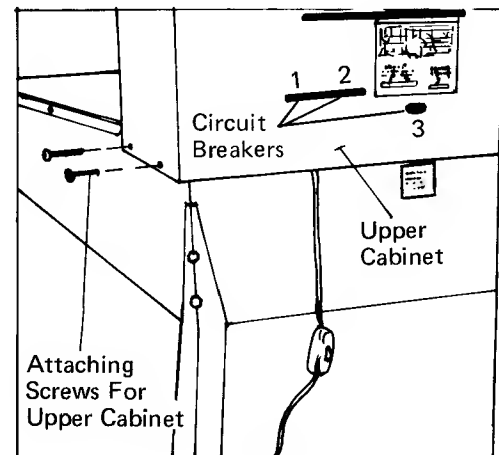

FIGURE 4
1. Remove the two screws on each side of the upper cabinet hood as shown in **Figure 4**.